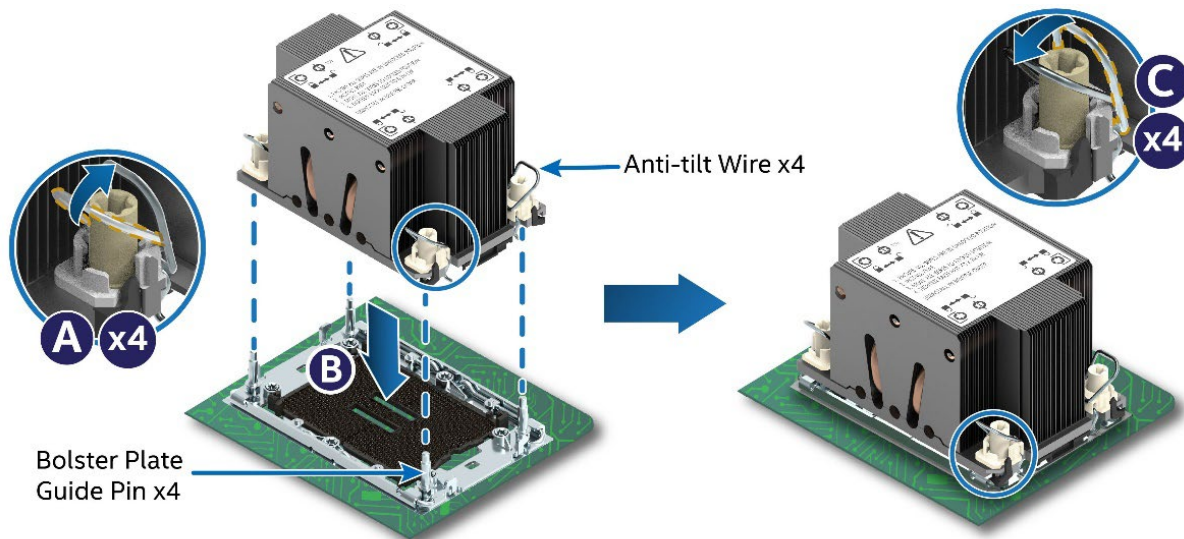

Figure 97. PHM Installation onto Server Board
2. Set anti-tilt wires on all four corners of the heat sink to the inward position (see Letter A in Figure 97).